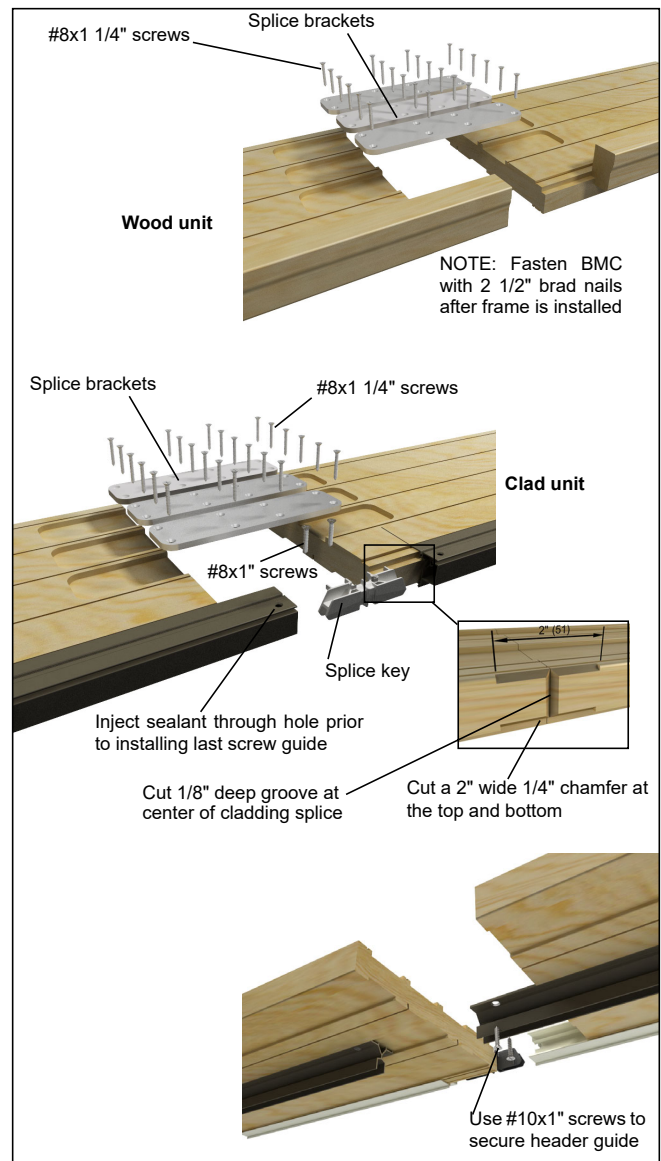

Figure 18
NOTE: For units with multiple head jamb sections assemble the head jamb sections at the splices with the supplied screws, brackets, and keys. Apply 3/16" (5) bead of sealant on all wood joints prior to assembly. For clad units, notch a 1/8" (3) deep groove at the head jamb for proper sealant flow prior to injecting sealant into clad splice key. See figure 18.